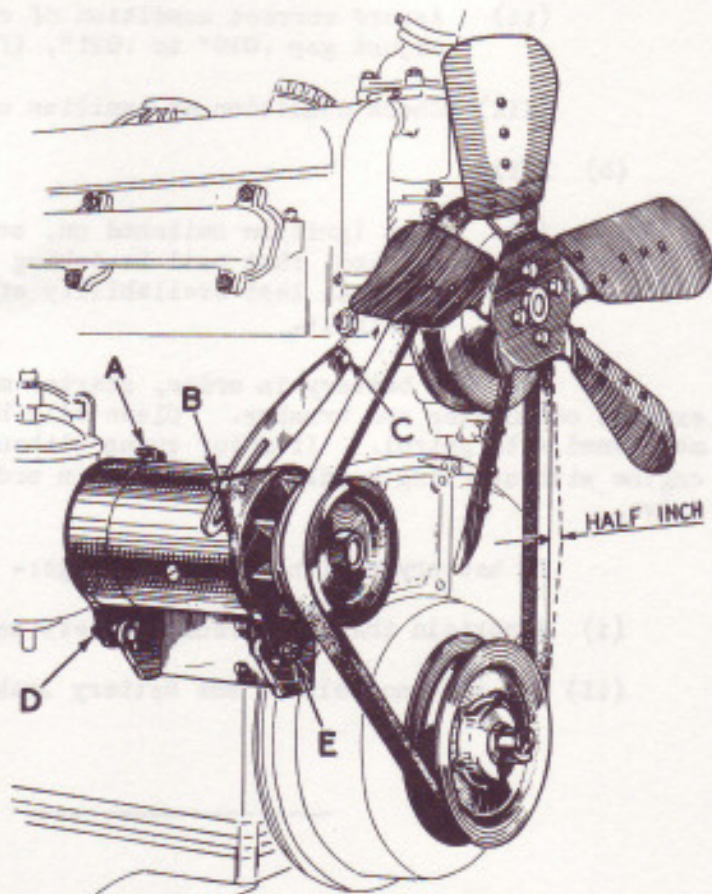

FIG. 1 DYNAMO AND "VEE" BELT DRIVE.
- (i) The tension of the belt should be such that it can be moved transversely with the fingers through a total distance of approximately one inch, when checked at a point equidistant from the crankshaft and fan pulleys. See Fig.1.
Release the nut of bolt C (Fig.1) a turn or two. Remove the adjusting screw B and slacken off the nuts D and E.